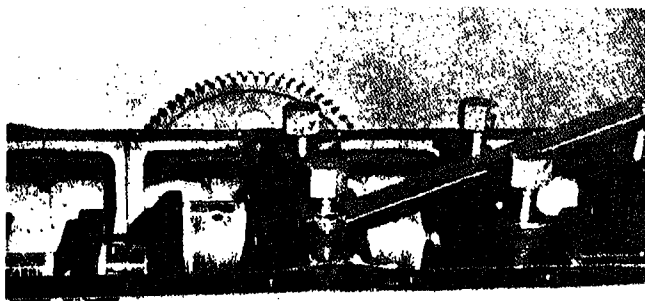

Fig. 0-55. Prying main bearing caps loose
2. Pry each cap loose with pry bar, Fig. 0-55; remove capscrews and lockplates and lift caps from block, Fig. 0-56.